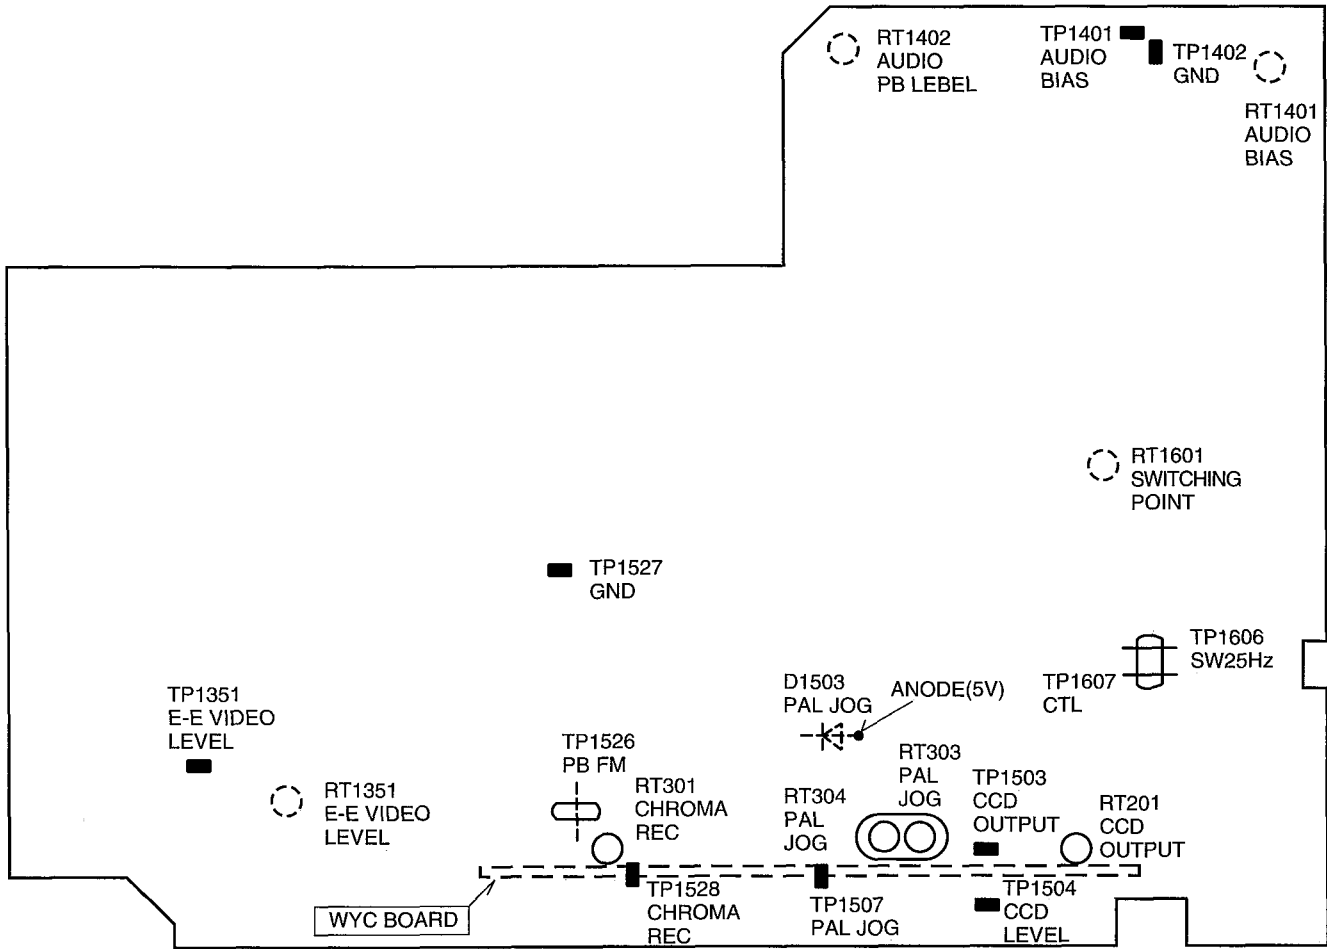

Fig. 4-4 Main (MA) Circuit Board [Side B]
(1) Head switching point adjustment (See Fig.4-4)
(1) E-E video level adjustment (See Fig.4-4)
(3) CCD level adjustment (Fig. 4-4)
(4) Chroma recording level adjustment (See Fig. 4-4)
(5) PAL Jog adjustment (See Fig. 4-4)
(1) Audio bias level adjustment (See Fig. 4-4)
(2) Audio playback level adjustment (See Fig. 4-4)